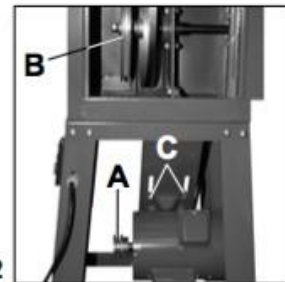

Figure 2
Once the base is assembled, attach the Drive Belt to the motor wheel (A) and to the Spindle Wheel (B) in the compartment directly above. If the two wheels don't line up properly, loosen the four bolts (C) holding the motor in place and slide the motor up or down, depending on need. Once the wheels line up, retighten the bolts. (Figure 2)